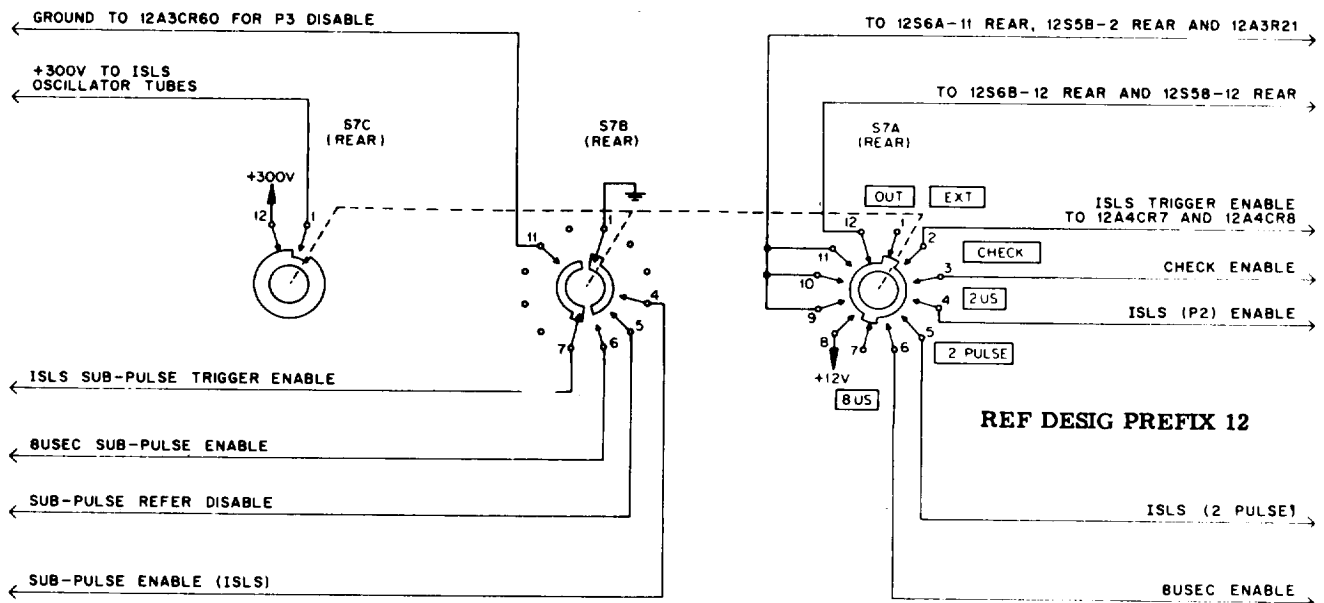

Figure 4-23. ISLS Control Circuits, Simplified Schematic Diagram
- 3. ISLS SELECTOR 12S7 - This switch determines the selection of ISLS triggering sources by distributing enabling voltages and ground connections as described below: (figure 4-23)